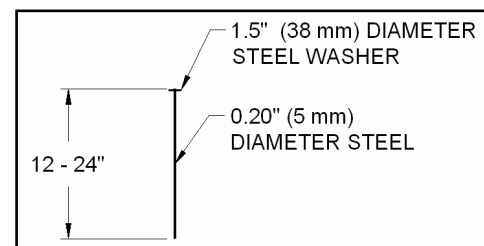

Figure 4: Securing Pin
3. Secure Landlok 450 with pins in the COS trench. Pins should be made of steel with a 0.20 in (5 mm) minimum diameter, having a 1.5 in (38mm) diameter washer at the head, and a length between 12 and 24 in (300-600 mm) with sufficient ground penetration to resist pullout (Figure 4). Longer pins may be required for looser soils. Heavier metal stakes may be required in rocky soils. Suggested placement of pins for the COS trench is along the bottom of the trench with pins on 12 in (300 mm) centers. Pins should also be installed on panel edge overlaps in the COS trench.